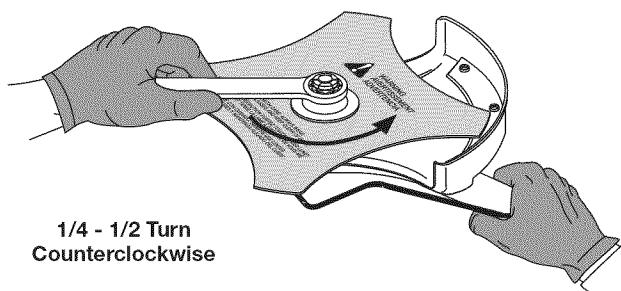

Fig. 20
- Without a torque wrench, use a 5/8 inch closed-end or socket wrench. Turn the nut until the blade retainer is snug against the shaft bushing. Make sure the blade is installed correctly, then rotate the nut an additional 1/4 to 1/2 turn counterclockwise (Fig. 20).